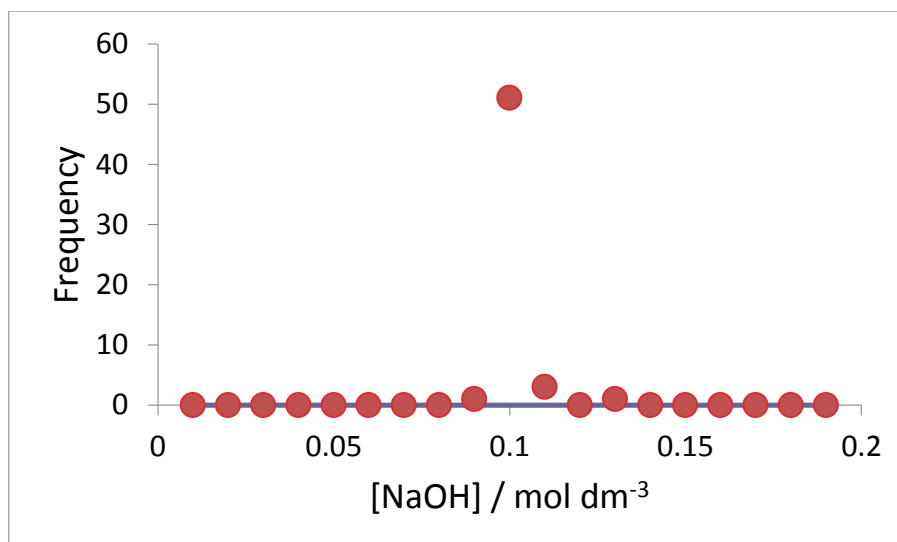

Figure 6B.1: Frequency histogram of the original data. Most data is in one bin so the defined range needs changing
3. Sample results from an experiment by a whole class to standardise NaOH (i.e. to determine the concentration of a solution of NaOH) are given in Column B ('Values Reported'). The numbers to extract as results at the end of the analysis (the mean and the standard deviation) are in blue text. The numbers in black have been generated from the 'Values Reported' to be used to calculate the mean ( $\bar{x}$ ), the standard deviation ( $\sigma_x$ ) and to plot a frequency histogram of the results (see Figure 6B.1). Take some time to look at the data. The value of the mean (shown in blue) includes all the data (all the red numbers). Decide if there are any outliers in the data that should be removed when calculating the mean. If so, calculate a mean without including these outliers and note it. This is very simple to do using Excel: highlight the red numbers required and note the 'Average' value that appears at the bottom of the screen. To omit outliers, simply use the control key whilst dragging the mouse to highlight all data to be included and skip over the outliers.
- The range (in the red box) is currently defined to cover all the experimental observations of concentrations of NaOH solution. It can be seen that almost all the data are currently in a single bin in the frequency histogram (shown in Figure 6B.1) apart from extreme outliers. Double-check that the file being worked on is saved with an appropriate filename, then adjust the centre and width of the defined range (the red numbers in cells F4 and F5) to try to obtain meaningful values for  $\bar{x}$  and  $\sigma_x$ , as judged by observing changes in the frequency histogram plot. Changing these values will remove some outliers and alter how the data is presented on the histogram. The aim is to alter the values until a frequency histogram is produced that resembles a Normal (Gaussian) distribution, with the centre peak corresponding to the mean of the data.